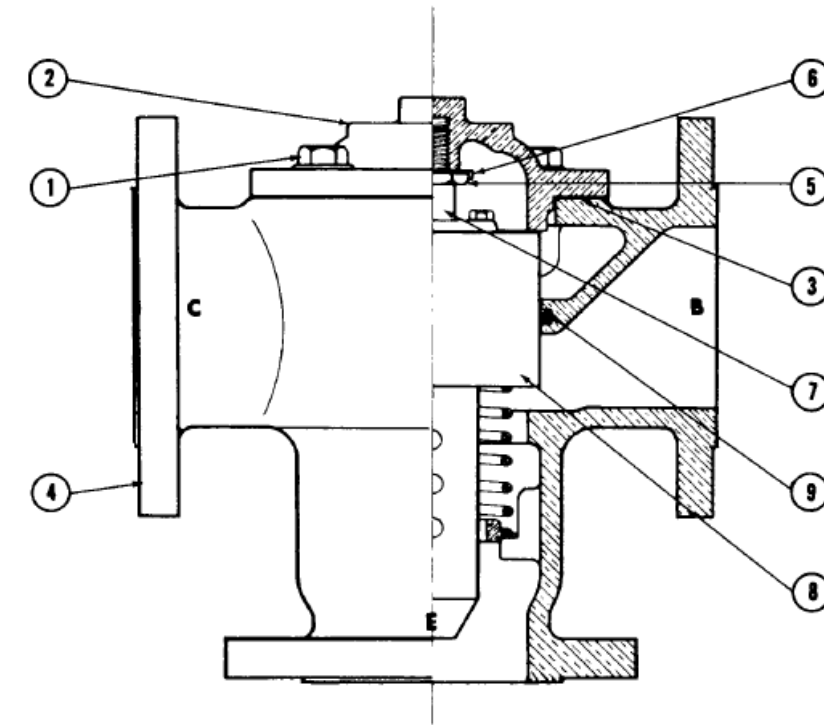

Figure 4
If the temperature continues to increase, the poppet will continue to move downward until the by-pass port (B) is completely closed off. (See Figure 4.) FLOW COEFFICIENTS: Table below indicates the flow in U.S. G.P.M. at different pressure drops. Cv Coefficients are listed in column 1 under 1 psi pressure drop (water)
4. Reassemble as shown in Figures 4 through 5, depending on valve size.